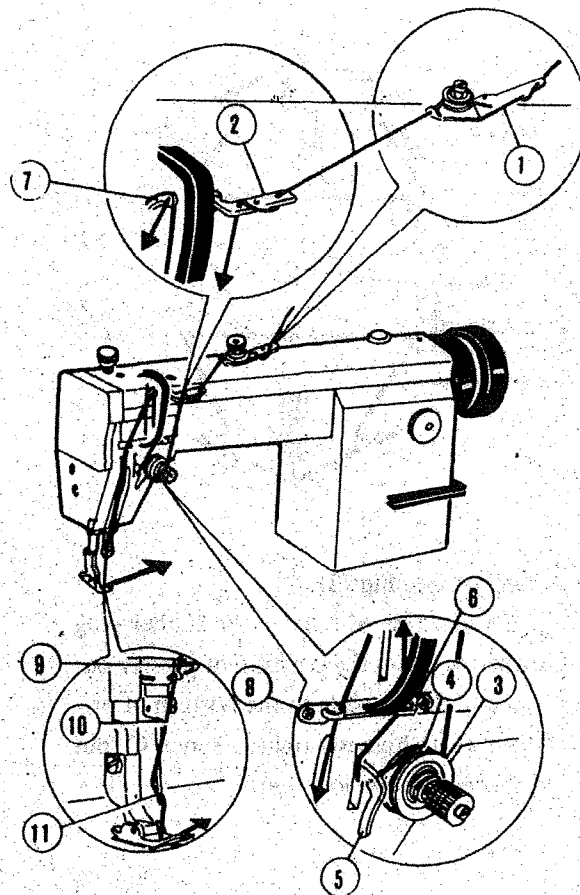

Fig.18
To thread the needle, raise needle bar to its highest position, pull thread from the spool and pass it in the numerical order depicted in Fig. 18. (1) Pull thread from spool, pass it through the guide plate (1) at the top of the machine, then thread it between the thread tension discs, and thru the left hole of guide plate (1). Continue through three-eyed thread guide (2). (3) Pass thread between thread tension discs (3). Pass upward thru thread take-up spring (4) and thread guide (5) and (6) then pass it through the thread take-up lever (7) from right to left. (5) Pass it down thru thread guide (8), (9) of needle bar bushing (lower) and needle bar thread guide (10). Then pass it from the left through the needle eye (11), once threaded pull out approximately 3 inches of thread. To draw up the bobbin thread, hold the end of the thread, turn the balance wheel to lower the needle bar and then continue until it reaches its highest position. Pull the needle thread and the bobbin thread will follow. Pull the ends of both threads towards you and under the presser foot.